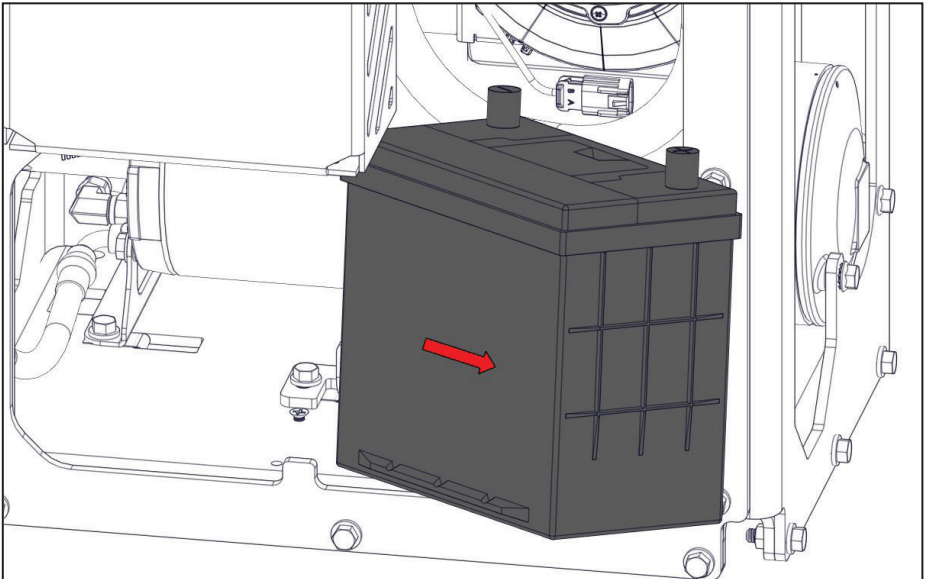

Figure 63 — Remove battery
- Rotate the battery and pull it out of the frame (Figure 63).